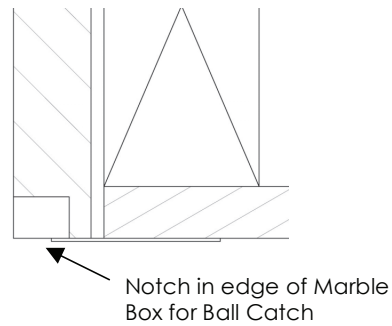

Fig 6.1
- There is a ball-catch on the Lenox frame, which secures the door. For the catch to operate properly, a notch must be ground into the edge of the marble box prior to frame installation. (See Fig 6.1) In order to mark the correct location for the notch, temporarily insert the Lenox Frame into the opening and mark the ball catch mechanism location. Clearance for the final shimming of the frame should be considered when positioning the notch. After marking the position, remove the Lenox frame.